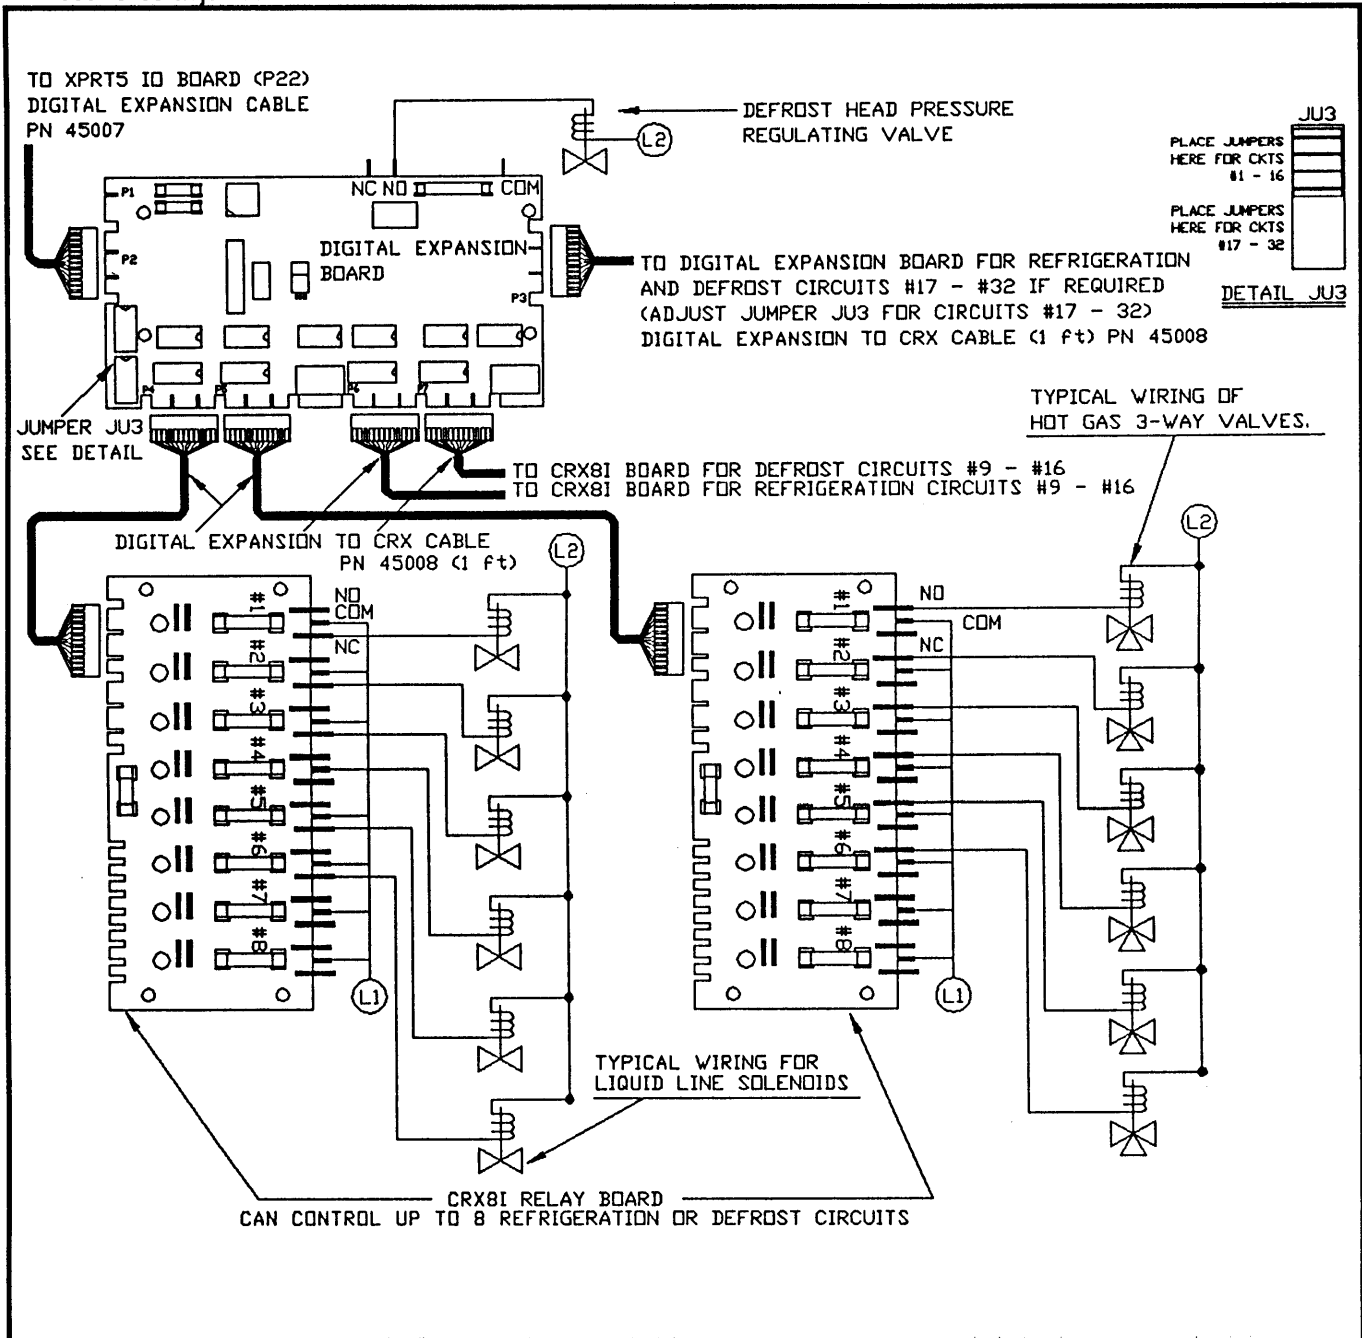

Figure C-15: Refrigeration and Defrost Wiring
A typical method for controlling liquid line solenoids and defrost valves is using the Digital Expansion Boards and CRX8i Boards as shown in Figure C-15. If the XPRT5 is being installed as a retrofit, Altech recommends removing the existing defrost clock to preclude it from interfering with XPRT5 operation. The CRX8 Relay Board can be used in place of the CRX8 if circuit isolation is unnecessary. Other types of refrigeration control can be used instead of liquid line solenoids, such as pilot operated EPR's or suction solenoids. The actual wiring to the CRX8i or CRX8 Board will need to be adjusted to match the control methods to
- The XPRT5 to Digital Expansion and Digital Expansion to CRX8i cables must be installed as shown in Figure C-15 for the circuits to be controlled correctly. For output assignments, See Table C-2.